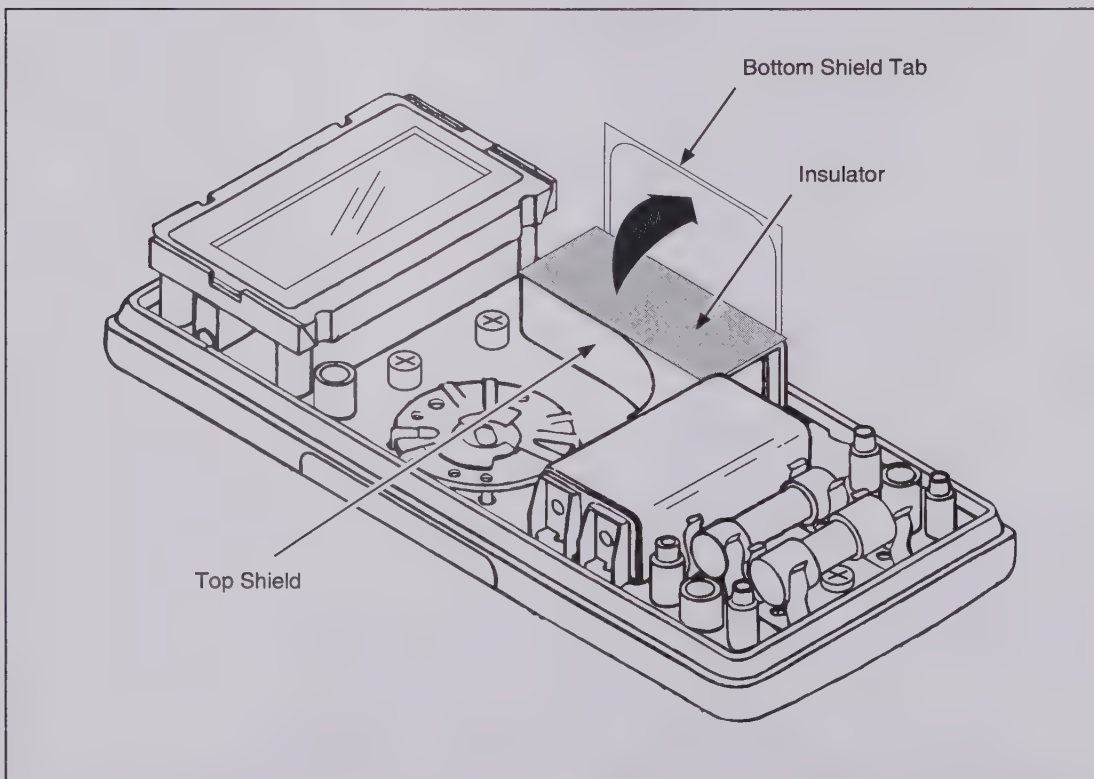

Figure 3-2. PCA Removal
2. Carefully pull back the bottom shield tab on the top shield as shown in Figure 3-2. Be sure not to crease the tab.